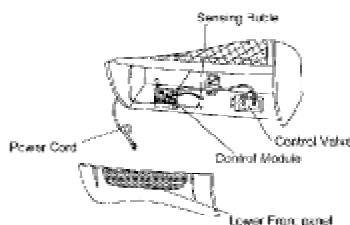

Figure 20 Control Model Access
2. Remove two screws and hex nuts, take out the control module. When installing, reverse the steps above. (See Figure 20, 23 and 24)